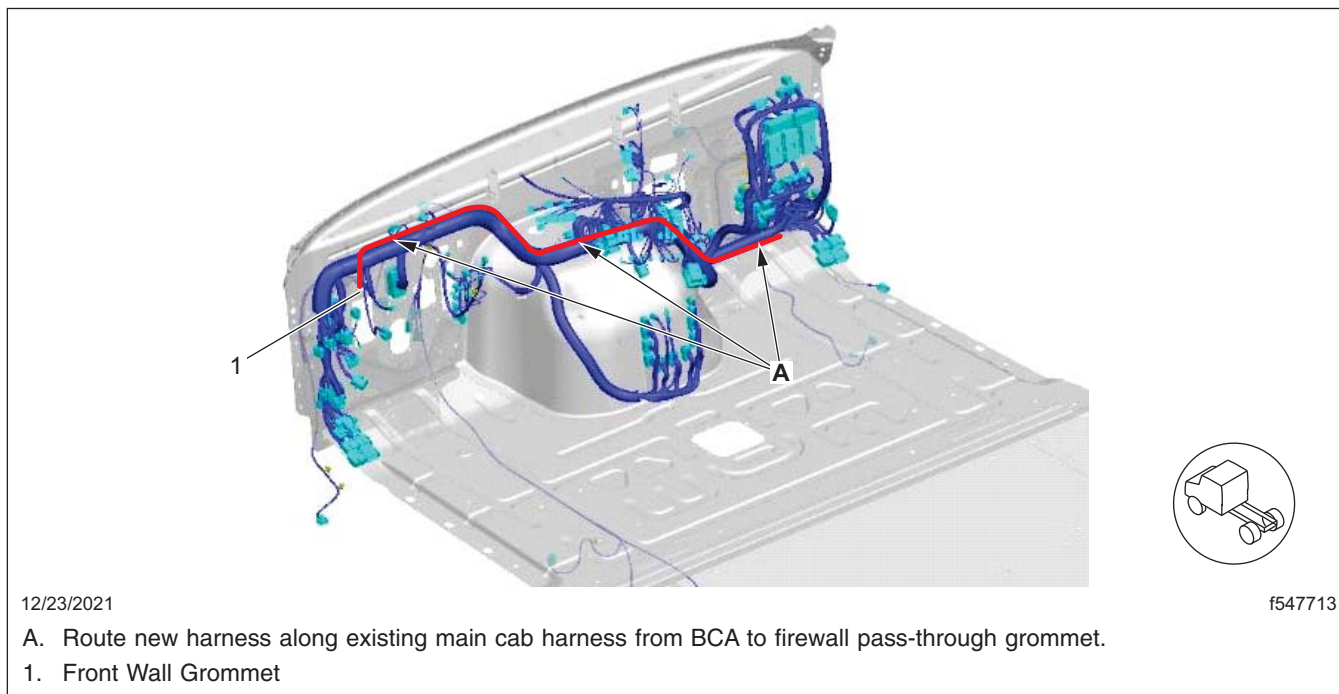
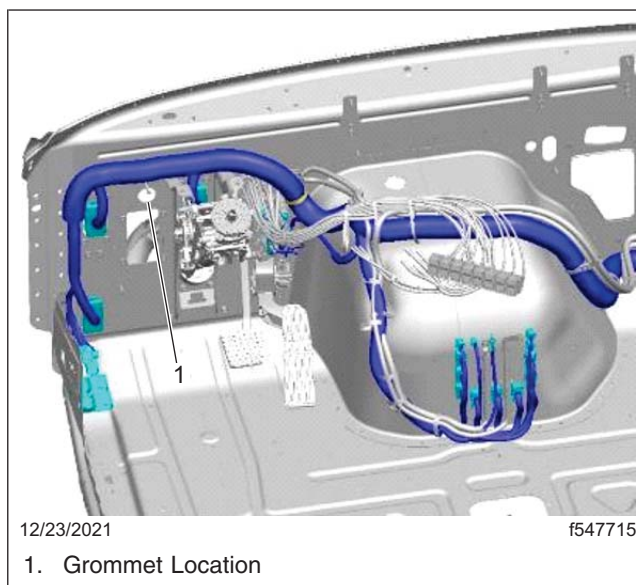

Fig. 6, New BCA Harness Routing
Fig. 7, Firewall Pass-through Grommet
2. Route the new harness along the main cab harness as shown in **Fig. 6**. Route the harness from the BCA box to the front wall grommet located above and to the left of the steering wheel as shown in **Fig. 7**. Use cable ties to secure the new harness to the main cab harness, as needed.